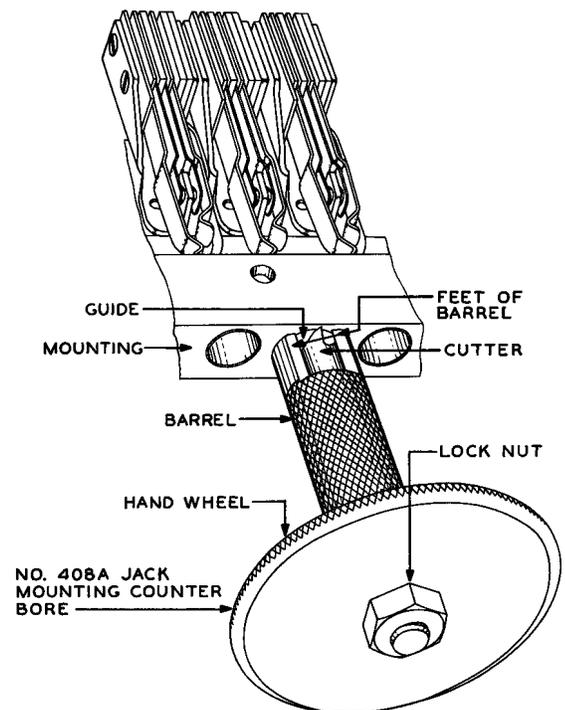

Fig. 5 – Method of Counterboring Mounting With 408A Jack Mounting Counterbore
3.11 Insert the guide of the counterbore into the jack aperture and position the feet of the knurled barrel against the face of the mounting as shown in Fig. 5. Counterbore by turning the handwheel slowly in a clockwise direction until the wheel bears against the knurled barrel. Carefully remove any shavings that may be lying in the jack aperture.